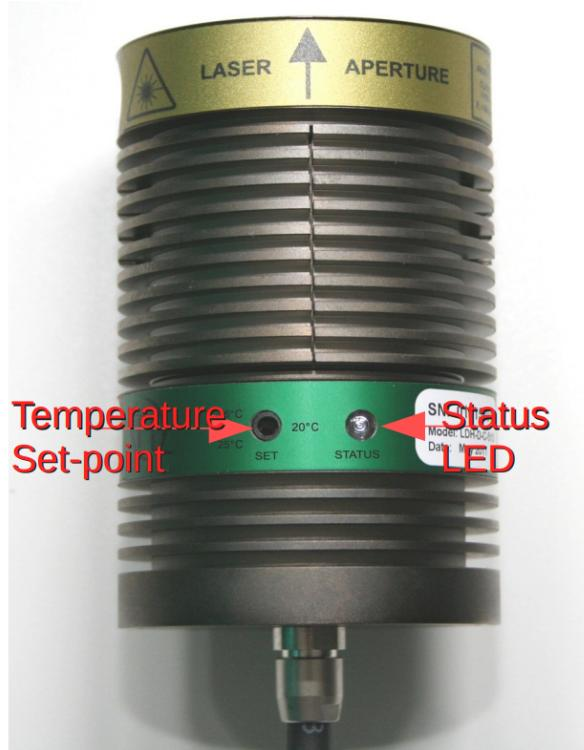

Figure 10: Top-view of a LDH-C series laser head
The thermoelectric (TE) cooler maintains the temperature of the diode element and collimating optics at a constant level. The factory pre-set value is approximately 20°C. The desired temperature can be set using the potentiometer for setting the temperature setpoint, which is located inside the *LDH-...-C*, see Fig. 10. For temperature adjustments a non conductive potentiometer adjustment tool is required.